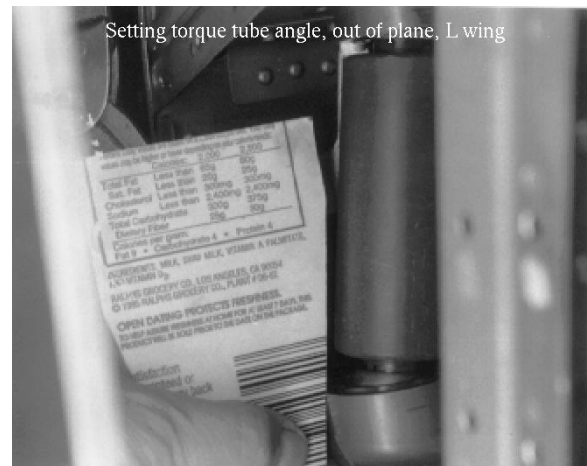

Figure 1.39. View of the torque tube in the left wing from outboard and below. The leading edge is up, so the rear bearing is at the bottom.
5. Move the front bearing in the cordwise direction so that the out of plane angle matches that of the trunion (Figure 1.39).